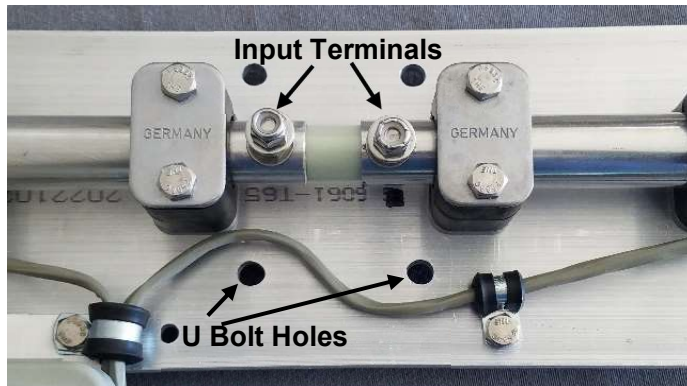

FIGURE 126
The element plate is designed for a 2-inch OD mast, with 4 symmetrical U-bolt holes on each side of the element, as shown in **FIG. 126**. These holes can accommodate two 1/4" to 5/16" diameter 2" (between legs) U-bolts, for ~ 1.5" to 2" OD mast. XOR supplies (2) 5/16" diameter 2" U-bolt assembly (11201) with this antenna. Be sure to use the U-bolt reinforcement plates (bolt top side of plate) supplied with both U-bolts. XOR also offers an optional 2" U-bolt assembly adapter, as shown in **FIG. 127**. This adapter allows this element plate to accommodate a 1" to 2" OD mast.